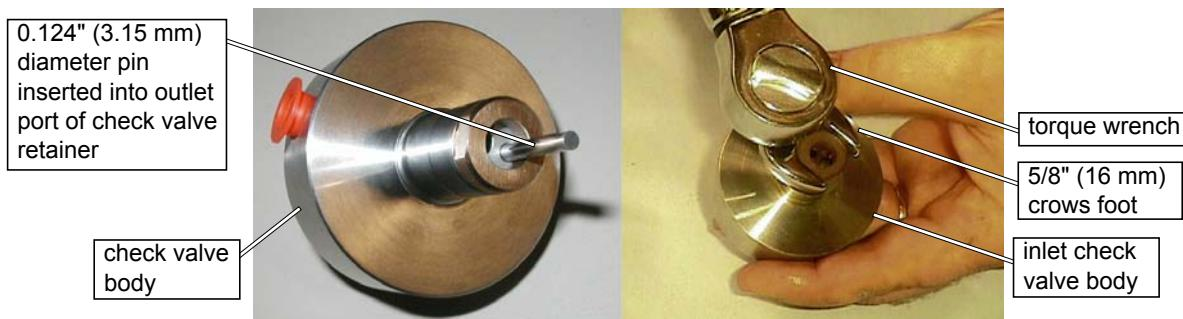

Figure 6-29
15. Apply a light coat of **Lubriplate** to the 0.124" (3.15 mm) diameter **anti-rotation pin** and insert it through the outlet port of the **check valve retainer** and into the **check valve body**. Clamp the outside diameter of the **check valve body** in the soft-jaws of a vise and torque the **retainer nut** to 200 in-lbs (22.6 Nm) using a 5/8" (16 mm) crows foot (Figure 6-29):